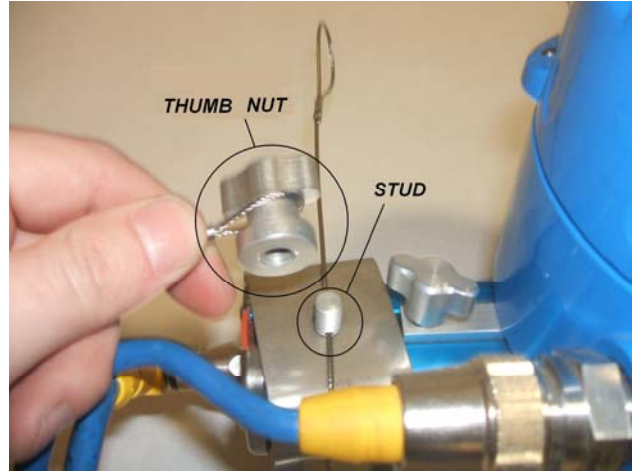

Figure 2
Step 1: Check to make sure brackets are properly assembled on the illuminator. The cable should be fed through the stud protruding from behind the illuminator, locking in the bracket as shown above in Figure 2. One end of the cable should be crimped into an oval for pulling leverage and the other should be crimped securely around a thumb nut.